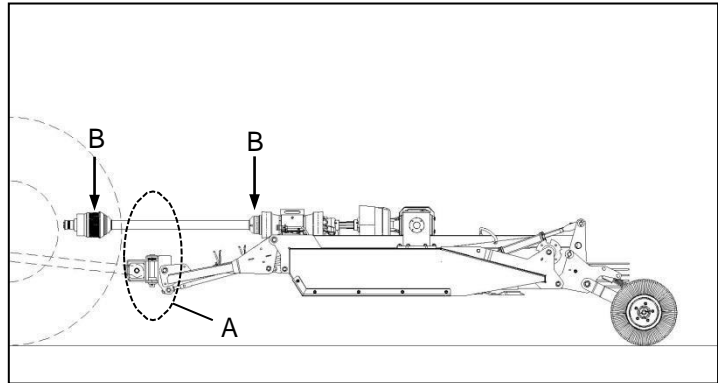

Fig. 4 (F60-350VT)
- ✔ On the F60-350VT model, specific checks should be conducted at the point of maximum articulation of the PTO driveshaft, i.e., while turning and lifted to its highest position (Fig. 4-A/B).
- ✔ Op die F60-350VT model moet spesifieke kontroles uitgevoer word by die maksimum-artikulasie-punt van die kragtakkeras, d.w.s. wanneer daar gedraai en dit tot sy hoogste posisie opgelig word (Fig. 4-A/B).